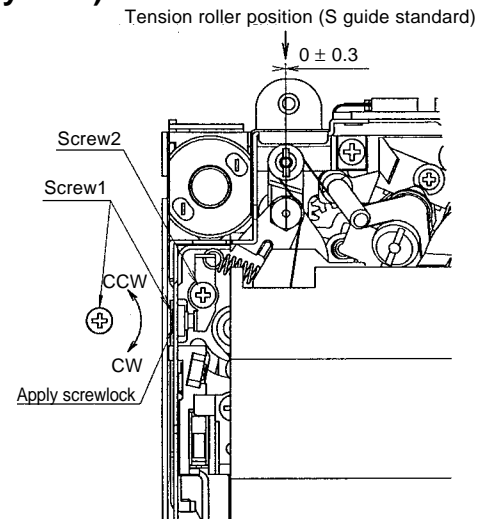

Fig. 4. Check (tape exists)
### (2) Adjustment (Fig. 4)
If the value is out of standard range, adjust, using the screw 1 shown in Fig. 4.
Before winding the 60-min tape make sure that the tension roller is in the same position as S guide as shown in Fig. 4.